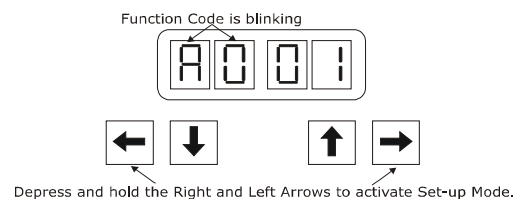

Figure 3: Display with Set-up Mode Activated
- The two Display Function Pads will begin to blink indicating that the value is ready to be changed. Refer to Figure 3: